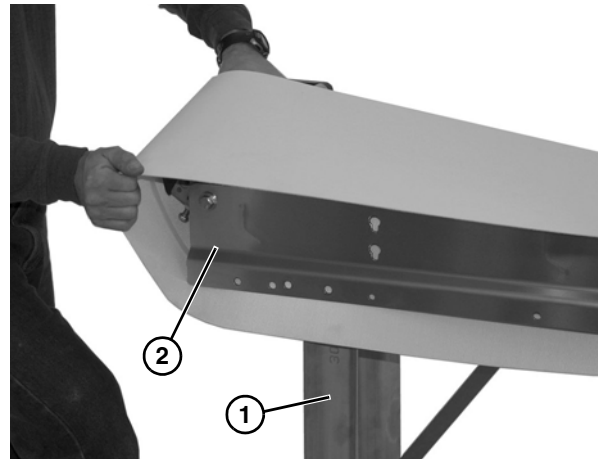

Figure 13
3. Position the belt under the stand (**Figure 13, item 1**) on the conveyor (**Figure 13, item 2**).